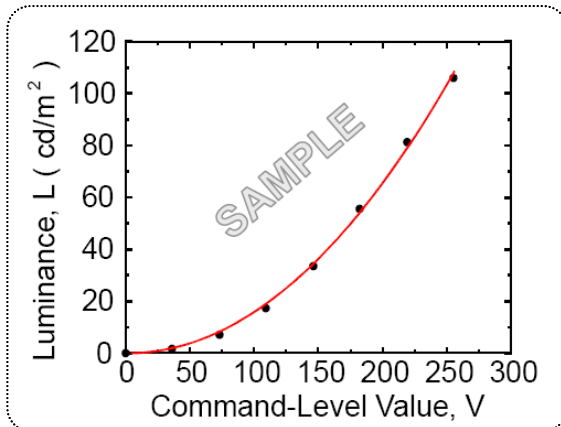
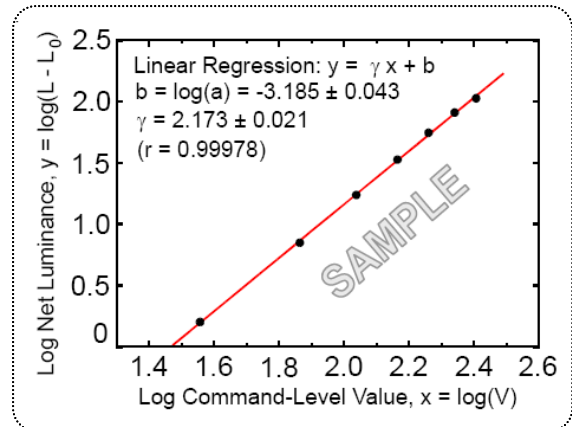

FIG.11 Sample Luminance vs. gray scale
FIG.12 Sample Log-log plot of luminance
6. GSR is the rate of gamma shift at up, down, left and right 60 degree viewing angle compare with center gamma. For more information see FIG.11 and FIG.12 **(By EZ Contrast)**
The GAMMA we calculate from the log-log representation (FIG.11)